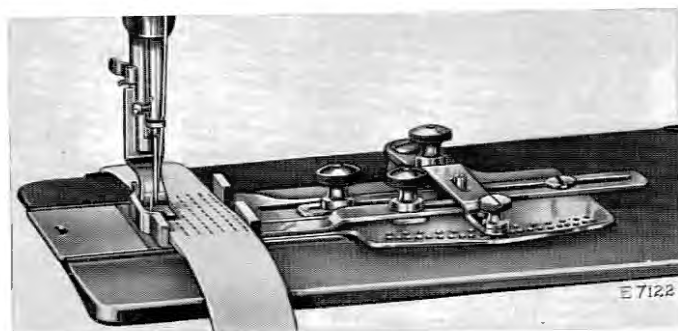
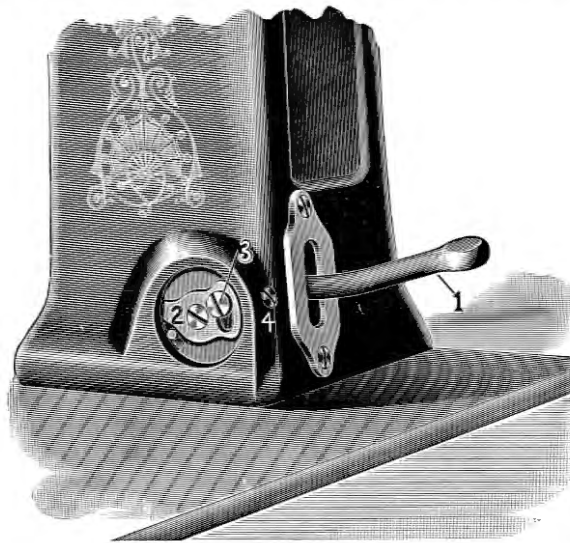

Fig. 11. Joining Ends of Belt
Fig. 16
should be set so that the needle will enter the belt the proper distance from the edge for the first line of stitching. Lower the presser foot and sew the first seam nearly to end of lap, then raise the presser foot, move the lever (H) one hole, thus moving the belt, lower the presser foot, reverse the feed by means of the handle (1, Fig. 16) and sew the second seam parallel to the first. Repeat this operation until the full width of the belt is covered by several parallel lines of stitching running lengthwise of the belt, as shown in Fig. 11.
Raise feed regulating handle (1, see Fig. 16) as high as it will go and the machine will feed from you with the longest
The upward movement of the feed regulating handle (see Fig. 16) may be stopped at any position desired by setting stop (2) for the purpose. Should the stitch be shortened or reversed, this adjustment assures the return of the feed to the same length of stitch used before making the change.